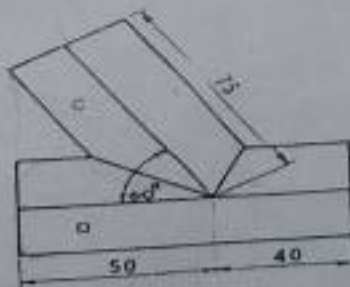

Figure 4
5. Two 25 mm square prisms C and D intersect as shown in figure 4. Draw the complete development of the surface of C.